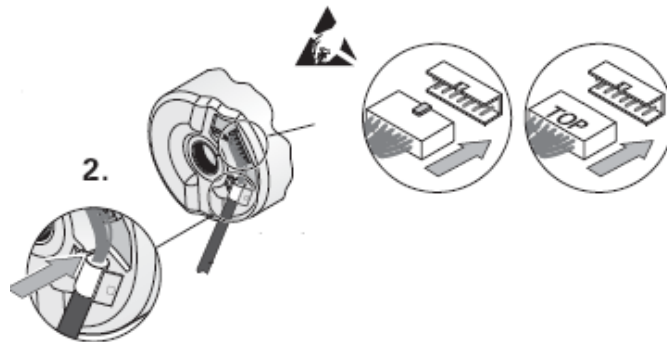

Figure 19: Install Encoder cable (if applicable)
4. Put the encoder cable through the hole in the machine base. Insert the cable plug into the encoder. Feed the cable through the cable retainer. (For ECN1313 encode only). See Figure 19.